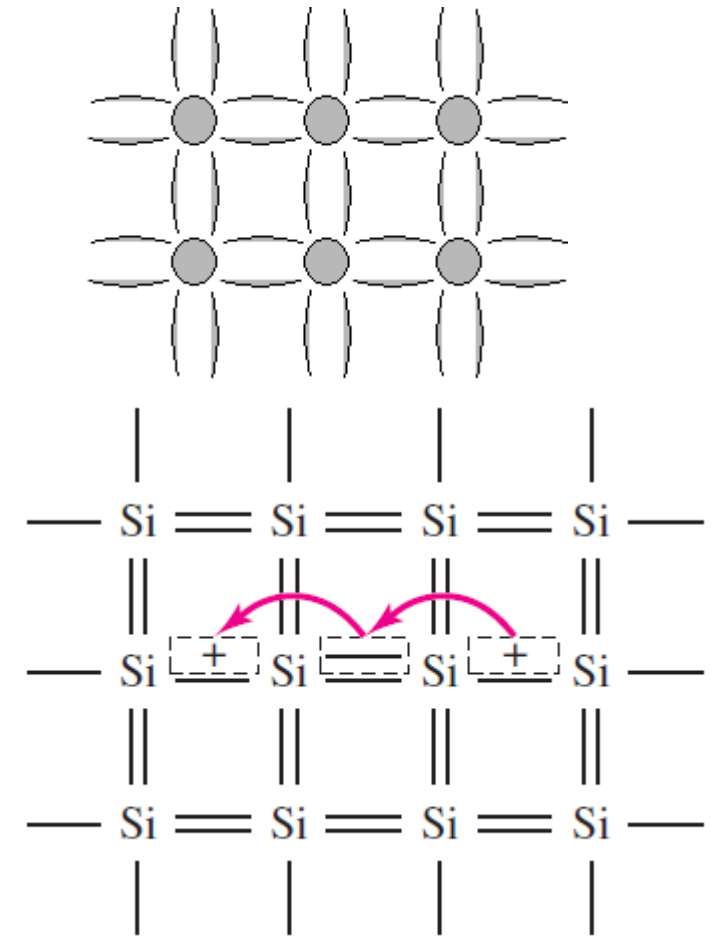

Figure 1.5
2. is adjacent to an empty statemay move into that position, as shown in Figure 1.5, making it appear as: